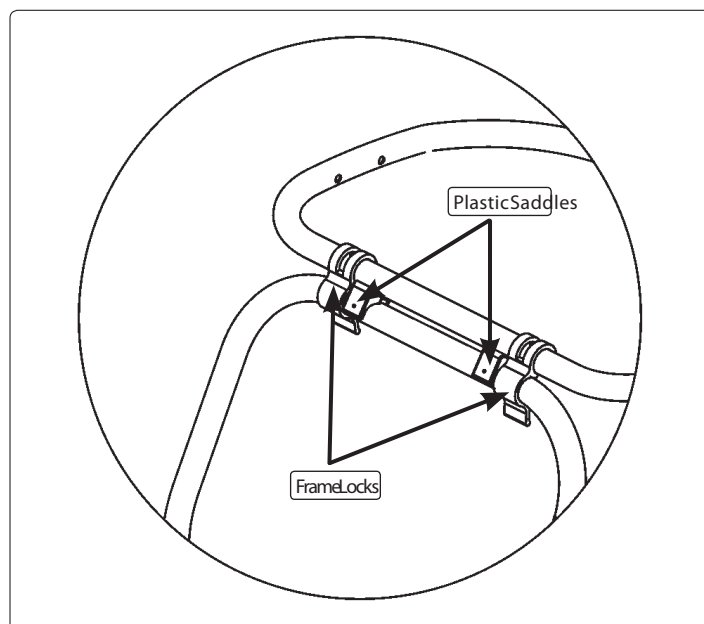

FIGURE 2
2. Rotate frame locks and snap onto rear tube. FIGURE 2